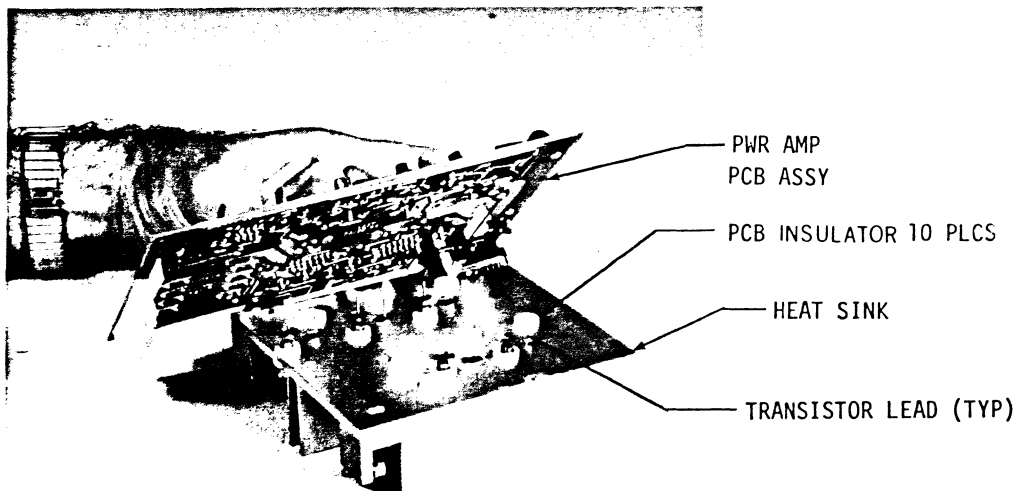

Figure 5-8
5.4.3 Pwr Amp PCB Removal (P/N 30105) (Fig. 5-8)